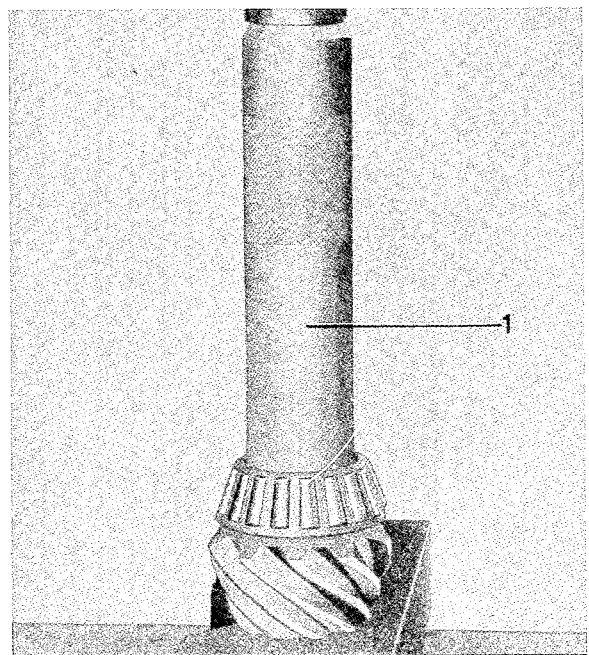
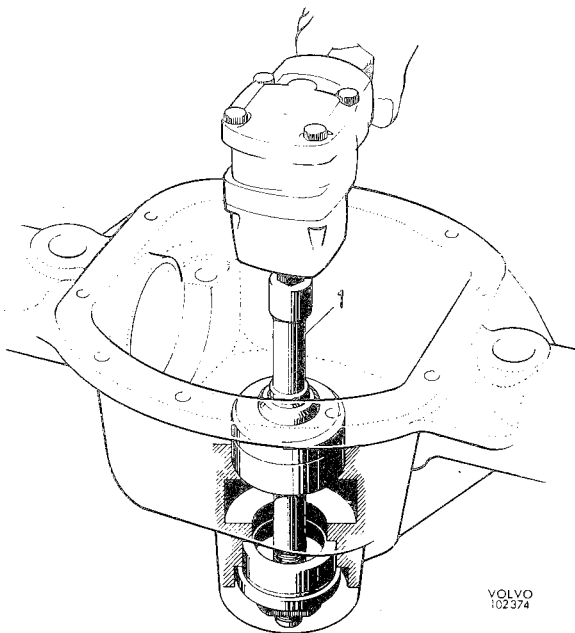

Fig. 4-156. Installation of rear pinion bearing
Fig. 4-157. Installation of bearing rings
4. Press the rear bearing on the pinion with sleeve 2842, see Fig. 4-156. Fit the measured shims and press in both the outer rings of the bearings with tool 2845, see Fig. 4-157.